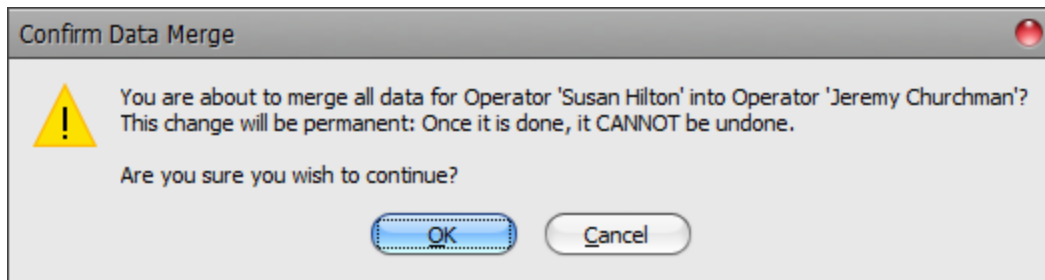

Figure 5-17: Merge confirmation window
5. In the **Confirm Data Merge** window (Figure 5-17), click **OK** to merge the data, or **Cancel** to exit the merge.